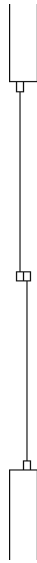

FIGURE 5.4: Zoomed in to the front opening
1. With AutoCAD running, open your cabin drawing I04A-FPLAYO.dwg (M04A-FPLAYO.dwg), and use the ZOOM command options to achieve a view similar to Figure 5.4. The file is also available from this book's web page at www.sybex.com/go/autocad2015ner or www.thecadgeek.com.